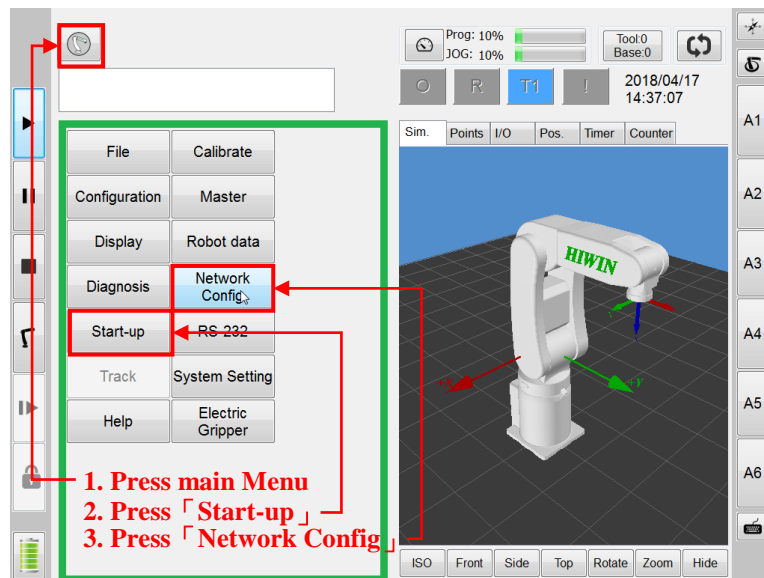

Figure 10-1 Open the robot arm communication interface
1. As shown in Figure 10-1, open the robot network communication interface.